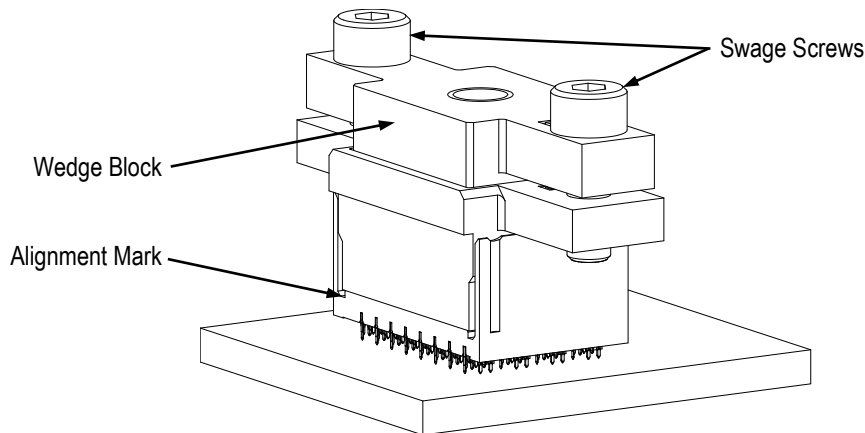

Figure 3
4. Place the wedge block onto the swage block and insert the swage screws into the wedge block. Do not tighten the swage screws. Orient the wedge block as shown in Figure 3.